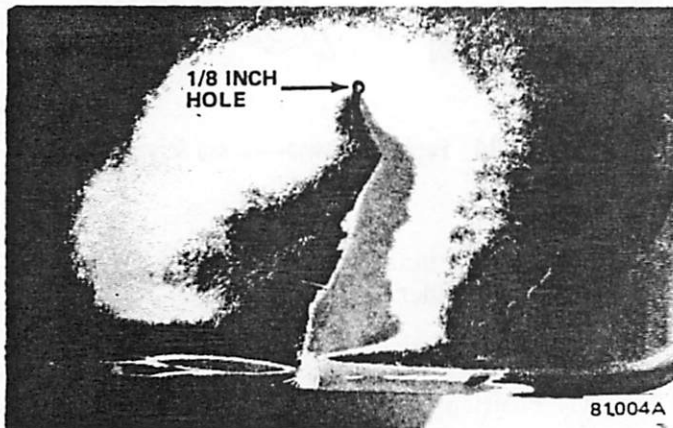

Fig. 3F-15 Stop-Drilling Cracks
(2) Stop-drill crack(s) using 1/8-inch drill bit as shown in figure 3F-15.